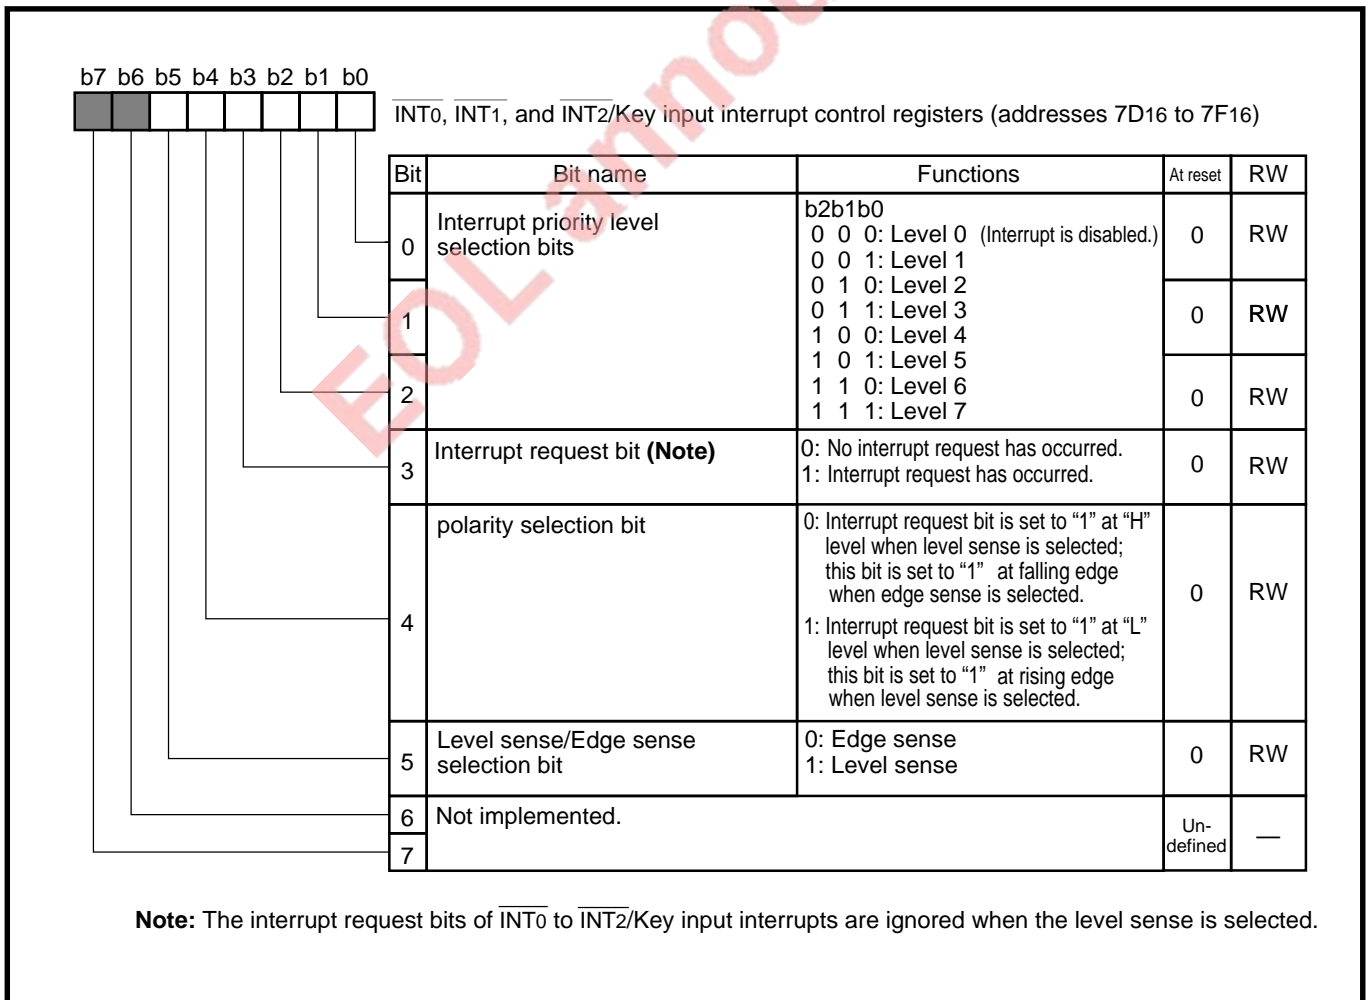

Fig. 4.10.2  $\overline{INT}_0$  to  $\overline{INT}_2$  interrupt control register's structure
An external interrupt request occurs by input signal from pin  $\overline{\text{INT}}_i$  ( $i = 0$  to  $2$ ). The occurrence condition of an external interrupt request can be selected by the level sense/edge sense selection bit and the polarity selection bit (bits 5 and 4 at addresses 7D16 to 7F16) shown in Figure 4.10.2. Table 4.10.1 lists the occurrence condition of  $\overline{\text{INT}}_i$  interrupt request.
**Note 2:** "b5" and "b4" represent bits 5 and 4 of the  $\overline{\text{INT}}_0$  to  $\overline{\text{INT}}_2$ /key input interrupt control register. (Refer to "Figure 4.10.2.")